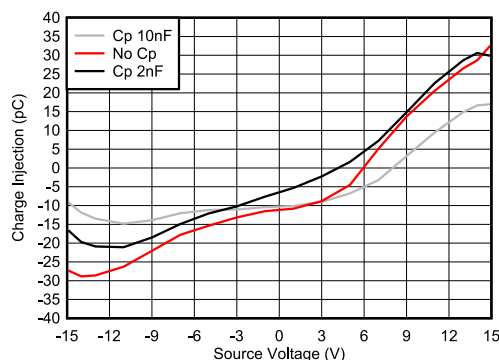

图 7-2. Charge Injection Compensation
The TMUX7234 contains specialized architecture to reduce charge injection on the source (S_x). To further reduce charge injection in a sensitive application, a compensation capacitor (C_p) can be added on the drain (D). This will ensure that excess charge from the switch transition will be pushed into the compensation capacitor on the drain (D) instead of the source (S_x). As a general rule of thumb, C_p should be 20x larger than the equivalent load capacitance on the source (S_x). 图 7-2 shows charge injection variation with different compensation capacitors on the drain side. This plot was captured on the TMUX7219 as part of the TMUX72xx family with a 100pF load capacitance.